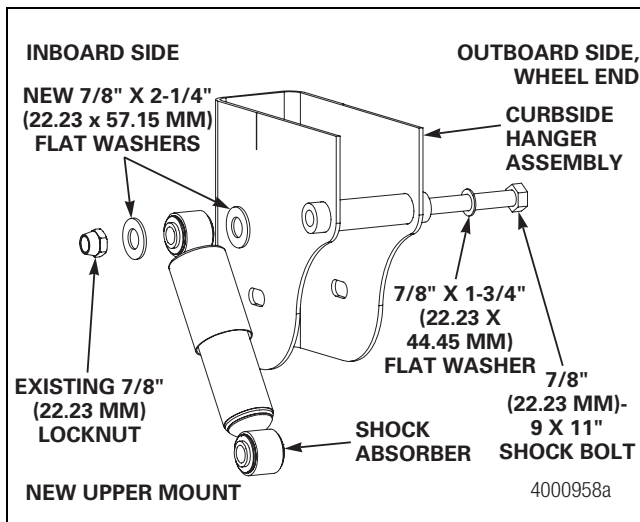

Figure 9.28
4. Install the new 7/8-inch x 2-1/4-inch O.D. (22.23 x 57.15 mm) washer between the shock tube and shock absorber. Install the new, larger washer between the shock absorber and locknut. Hand-tighten the nut. Figure 9.28.
6. Install the new 7/8-inch x 2-1/4-inch O.D. (22.23 x 57.15 mm) washer onto the upper shock absorber bolt between the shock tube and the shock absorber. Install the larger-diameter washer and locknut. Hand-tighten the nut. Figure 9.28.